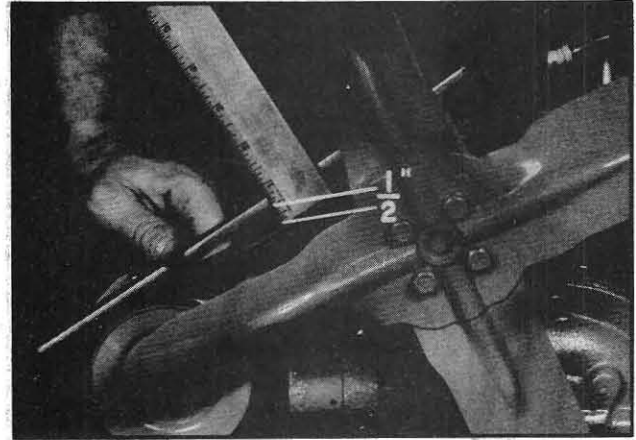

Fig. 202
5. Adjust the tension of the drive belt by moving the generator toward or away from the engine block until there is 1/2 in. free movement, measured as shown in Fig. 202.
7. Mount the generator on the tractor and adjust the drive belt tension until there is 1/2 in. of free play in the belt, measured as shown in Fig. 202.